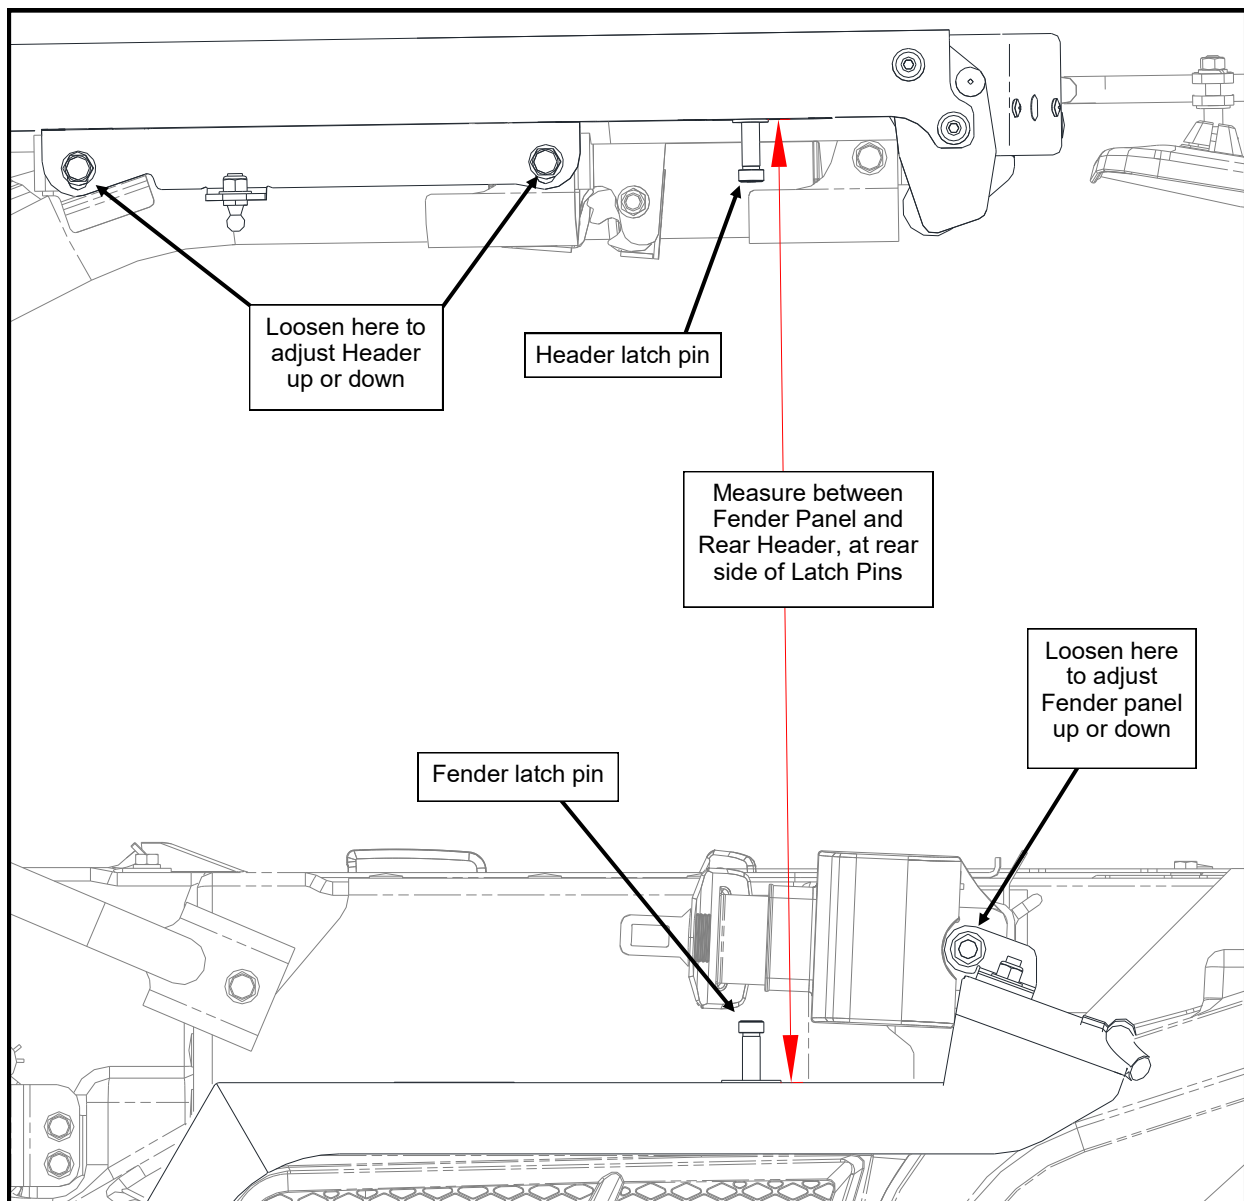

Figure 8.10: Rear Header Adjustment
8.10 Push up or down on the rear side headers to meet the following dimensions: (see Figure 8.10)